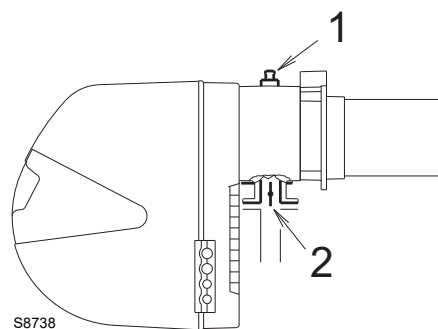

Fig. 27
Gas pressure measured at the test point 1)(Fig. 27), with:
Pressure loss at gas butterfly valve 2)(Fig. 27) with maximum opening: 90°.
- Subtract the combustion chamber pressure from the gas pressure measured at test point 1)(Fig. 27).
To know the required gas pressure at test point 1)(Fig. 27), set the maximum output required from the burner operation, then:
- Read, on the right (column 1) the socket pressure 1)(Fig. 27).
gas pressure at test point 1)(Fig. 27).